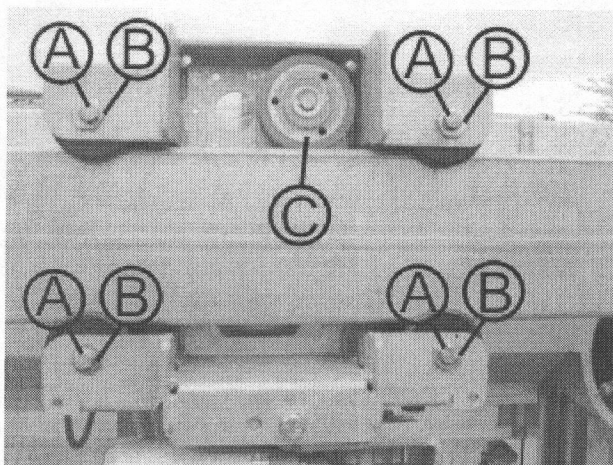

Fig. 022
5. Loosen nuts of the 4 roller axles (A) slightly (Fig. 022)
6. Turn cam (B) of the 4 running rollers downward fully, so that the driving wheel is relieved (Fig. 022).